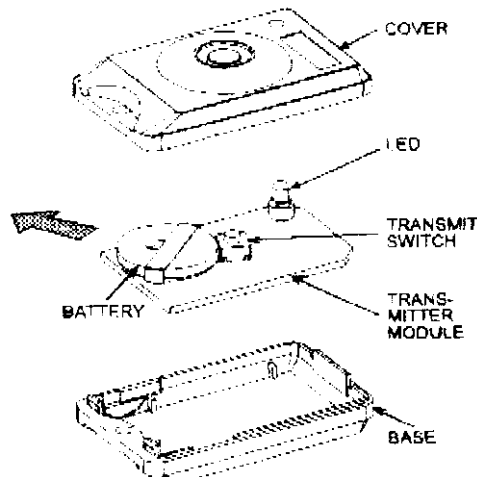

Figure 3. Battery Replacement
2nd. Slide the old battery from under the clip in the direction shown by the arrow in Figure 3
- 4th. Briefly press the transmit switch (Fig. 3). The on-board LED should light brightly for 2 seconds.